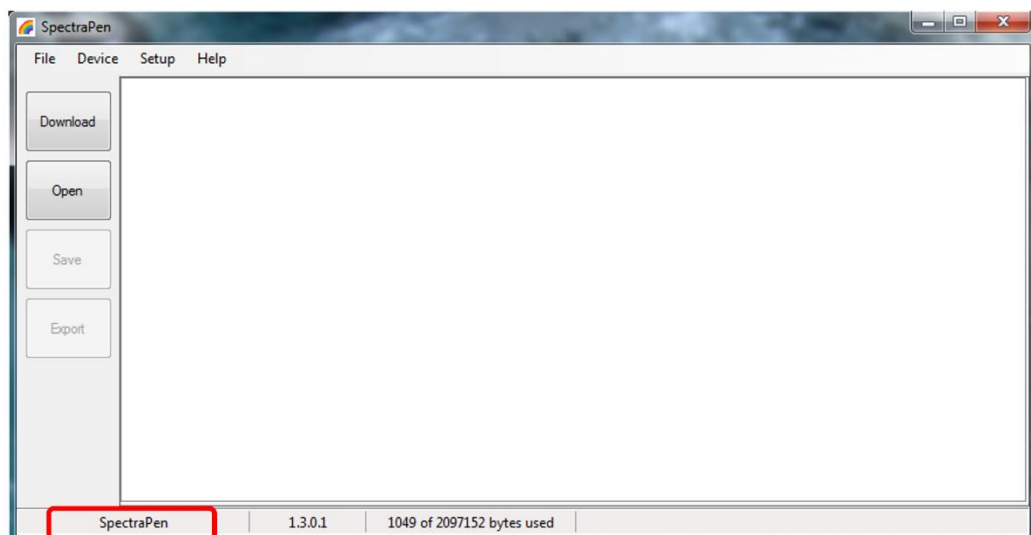

Fig. 26 SpectraPen connected.
6. When the device is properly connected the left bottom corner of the SW window will display "SpectraPen" (Fig. 26). Otherwise notification "Device: Not Connected" is displayed (Fig. 27).